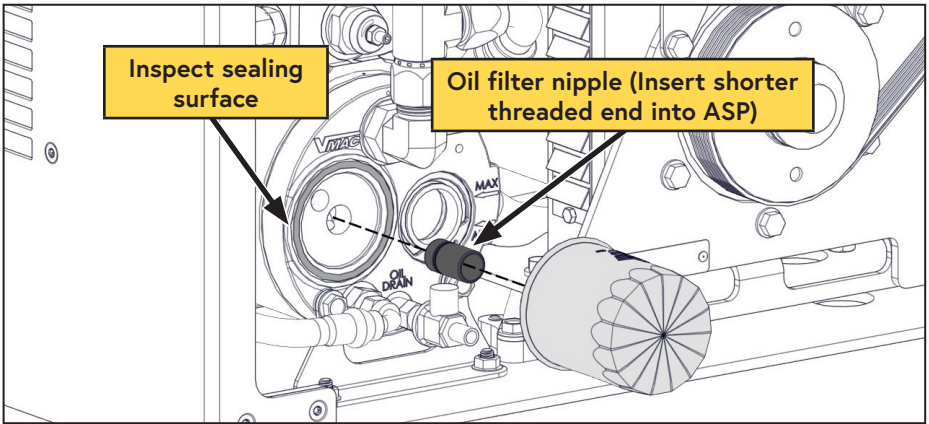

Figure 31 — Compressor oil filter
- *If the nipple came out with the oil filter, remove it from the filter, being careful to avoid damaging the threads (Figure 31).
- *To reinstall the nipple, thoroughly clean the threads and apply Loctite 242 (blue) to the end with the short threads and replace it in the ASP (Figure 31).
- Clean the gasket sealing surface on the front of the ASP and inspect it for damage. The surface must be free of old gasket material, and smooth, to ensure a good seal (Figure 31).